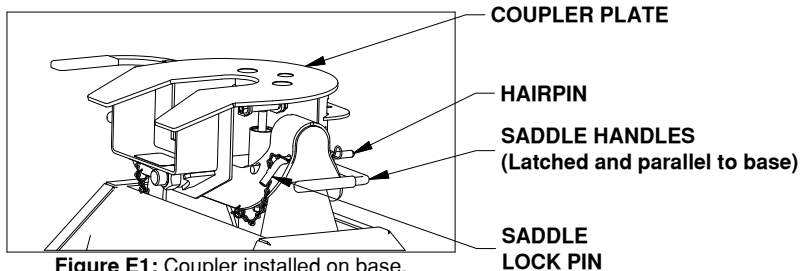

Figure E1: Coupler installed on base.
1. Lubricate the polyurethane bushings on top of the pivot arms with high grade lithium grease (available at your local hardware/automotive store). Place the coupler over the pivot arms. (The saddle handles should be parallel with the base in the latched position.) Place the saddle lock pins through the saddle, then insert the hairpins through the holes in the end of the saddle lock pins to secure the coupler to the pivot arms, see Figure E1.